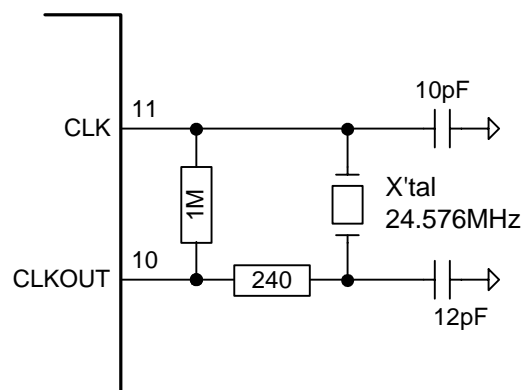
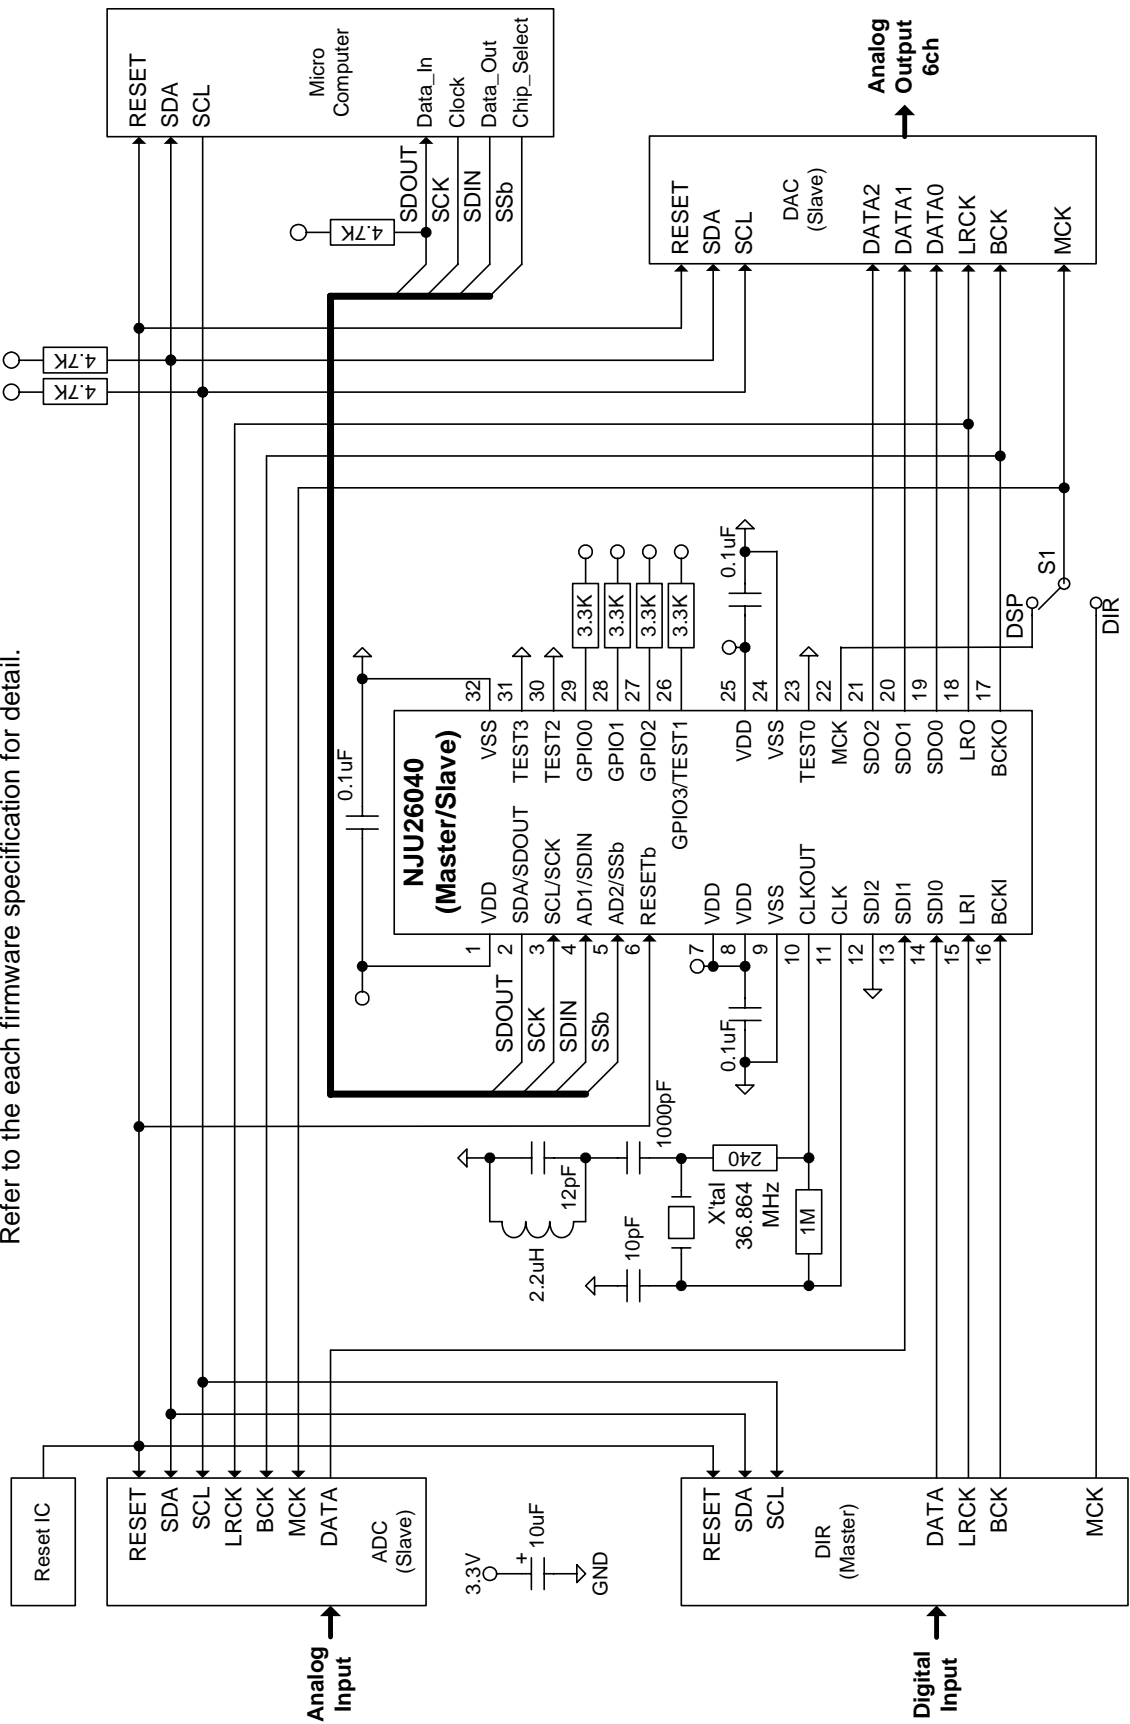

Figure 2. Crystal Oscillation Circuit
Figure 6. Application circuit 4: NJU26040 with DIR, ADC and DAC (4-wire Serial Bus)
Note3: The ADCs and DACs operate in Slave mode in the Figure 3 to Figure 6.
The Figure 6 shows the circuit with DIR, ADC, DSP and DAC.
The application circuits Figure 3 to Figure 6 employ the third overtone oscillation mode. The application circuit Figure 2 employs the fundamental wave oscillation mode. The Figure 2 oscillation circuit is different from Figure 3 to Figure 6.
- 1) The DSP power supply is 3.3V. If the power is supplied to DSP, input signal 5v is acceptable to the input terminal. The Figure 3 to Figure 6 circuits assumes the ICs that are connected to the DSP employ the power supply 3.3V. So the DSP can connect to the ICs directly.